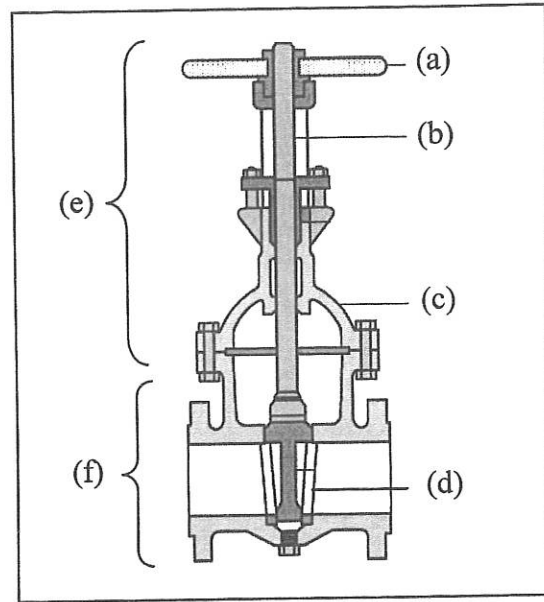

Figure B4a / Rajah B4a
a. Name all parts of control valve in Figure B4a below: